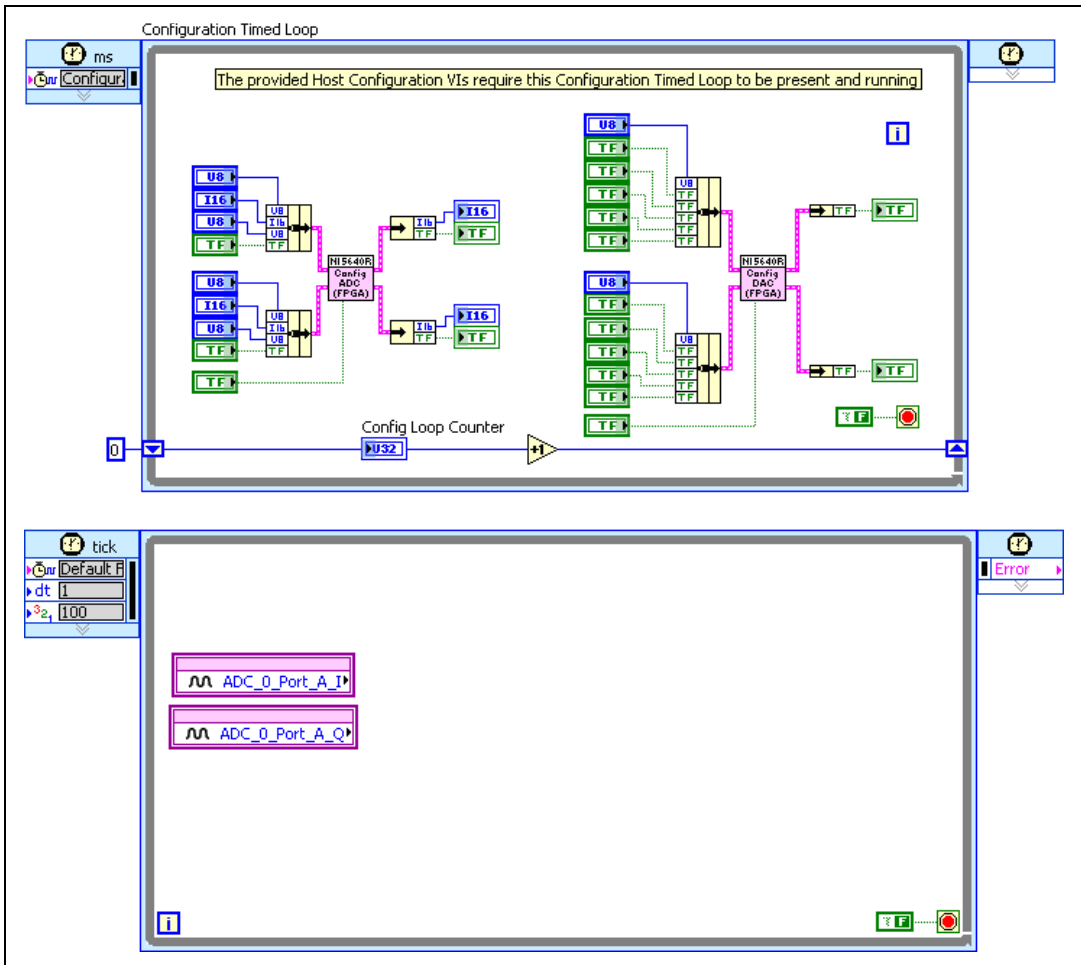

Figure 13. Adding I/O Nodes to the FPGA VI
- Select both Analog Input FPGA I/O items in the **Project Explorer** window and drag them onto the block diagram inside the timed loop you created. Two FPGA I/O Nodes appear on the block diagram configured with the specific FPGA I/O item. Your block diagram should now look like Figure 13.